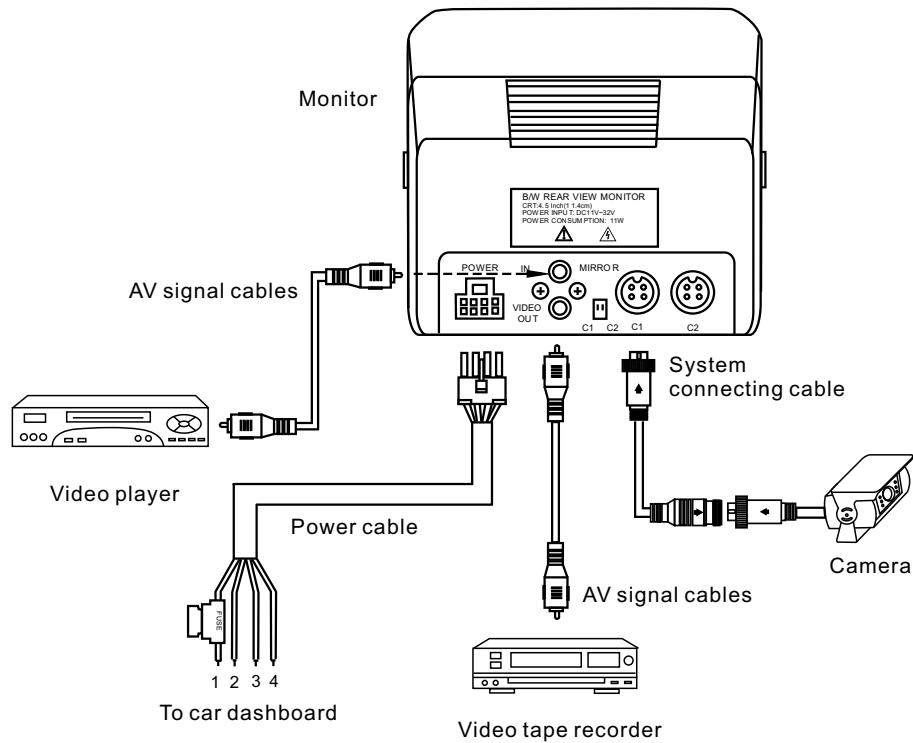

Fig.6 System connection
1. See connection diagram for connections to ignition, ground and back up circuit. (See Fig. 6)